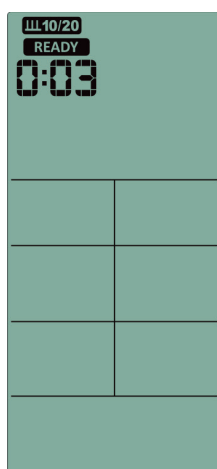
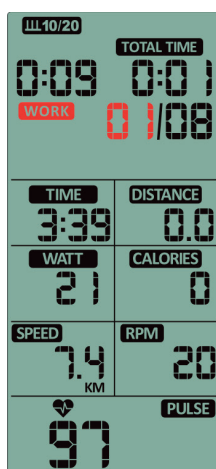

Figure 26
Figure 27
- B. READY is displayed and counts down 3 seconds (3-2-1)(Figure 26), then the rear window shows "01/XX" (the 01 part needs to flash), WORK flashes, TIME begins a 10-second count-down, and DISTANCE, CALORIES, WATTS, SPEED, RPM start counting according to the calculated values (Figure 27).